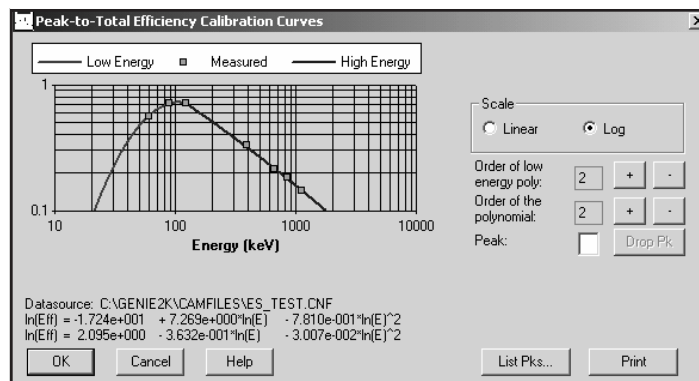

Figure 89 Show the Peak-to-Total Calibration
Select the **Show** button to display the Peak-to-Total calibration curve as a graph (Figure 89). Please refer to “Efficiency Show” on page 120 for a complete discussion of this function. Note that the default order for the polynomial is two (2) for both the low energy and high energy curves